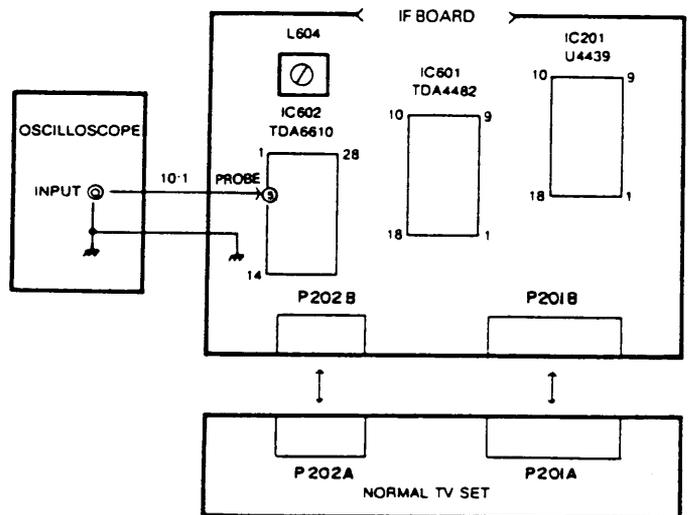

Fig 8. Connection Diagram of the Instruments
- 1) Connect Oscilloscope to the pin5 of IC601 with 10:1 probe.(Fig. 8).